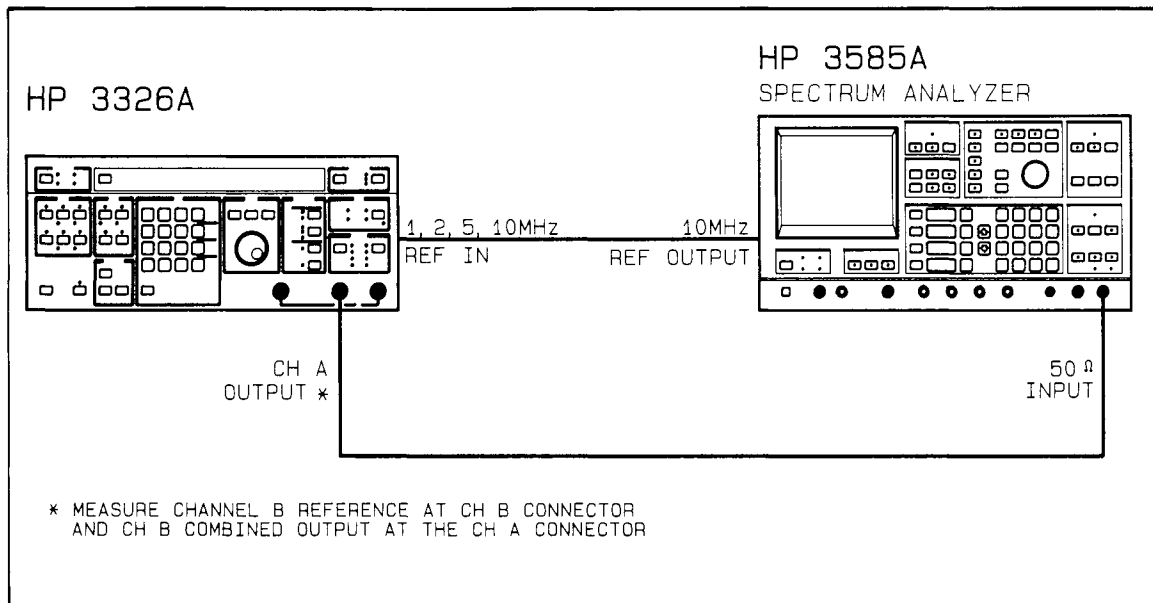

Figure 2-10. Combiner Amplitude Accuracy Test
2. Connect the test equipment as follows (illustrated in Figure 2-10):